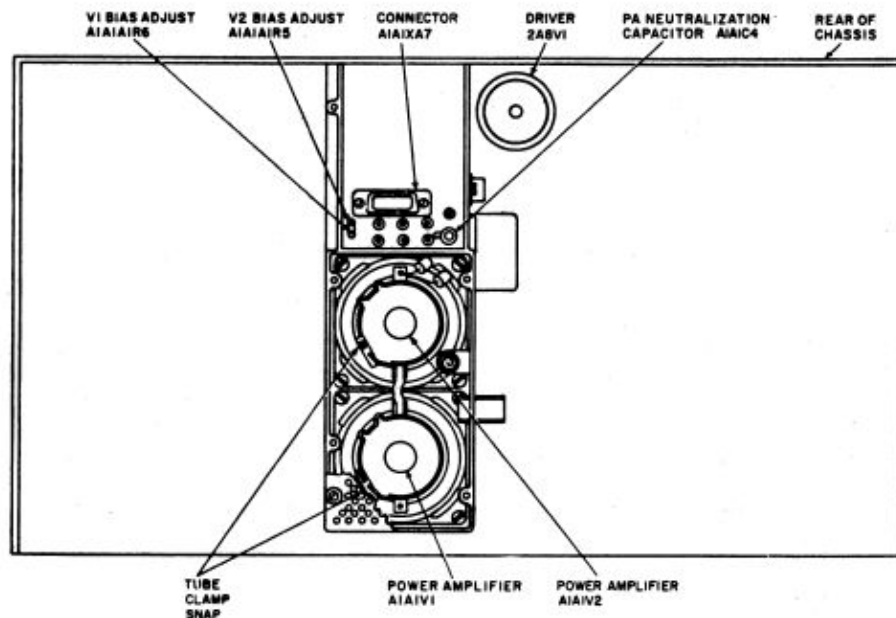

FIG 40 - LOCATION OF PA AND DRIVER TUBES AND ADJUSTMENT CONTROLS IN THE AM-3349/GRC-106
- h. Using a screwdriver, release the tube clamp snap (fig 40) and remove power amplifier tube 2A1A1V1 from its socket.
- o. Depress and hold switch 2A5S1 (located in the centre of the back of the front panel). The TEST METER should indicate between the two green (▷) portions in the central section of the scale. If the TEST METER does not indicate correctly, adjust resistor 2A1A1R5 (fig 40) until the TEST METER indicates between the two green portions of the scale. Release switch 2A5S1.
- s. Using a screwdriver, release the tube clamp snap (fig 40) and remove power amplifier tube 2A1A1V2 from its socket.
- u. Depress and hold switch 2A5S1. TEST METER should indicate between the two green (▷) portions in the central section of the scale. If the TEST METER does not indicate correctly, adjust resistor 2A1A1R6 (fig 40) until the TEST METER indicates between the two green (▷) portions in the central section of the scale. Release switch 2A5S1.